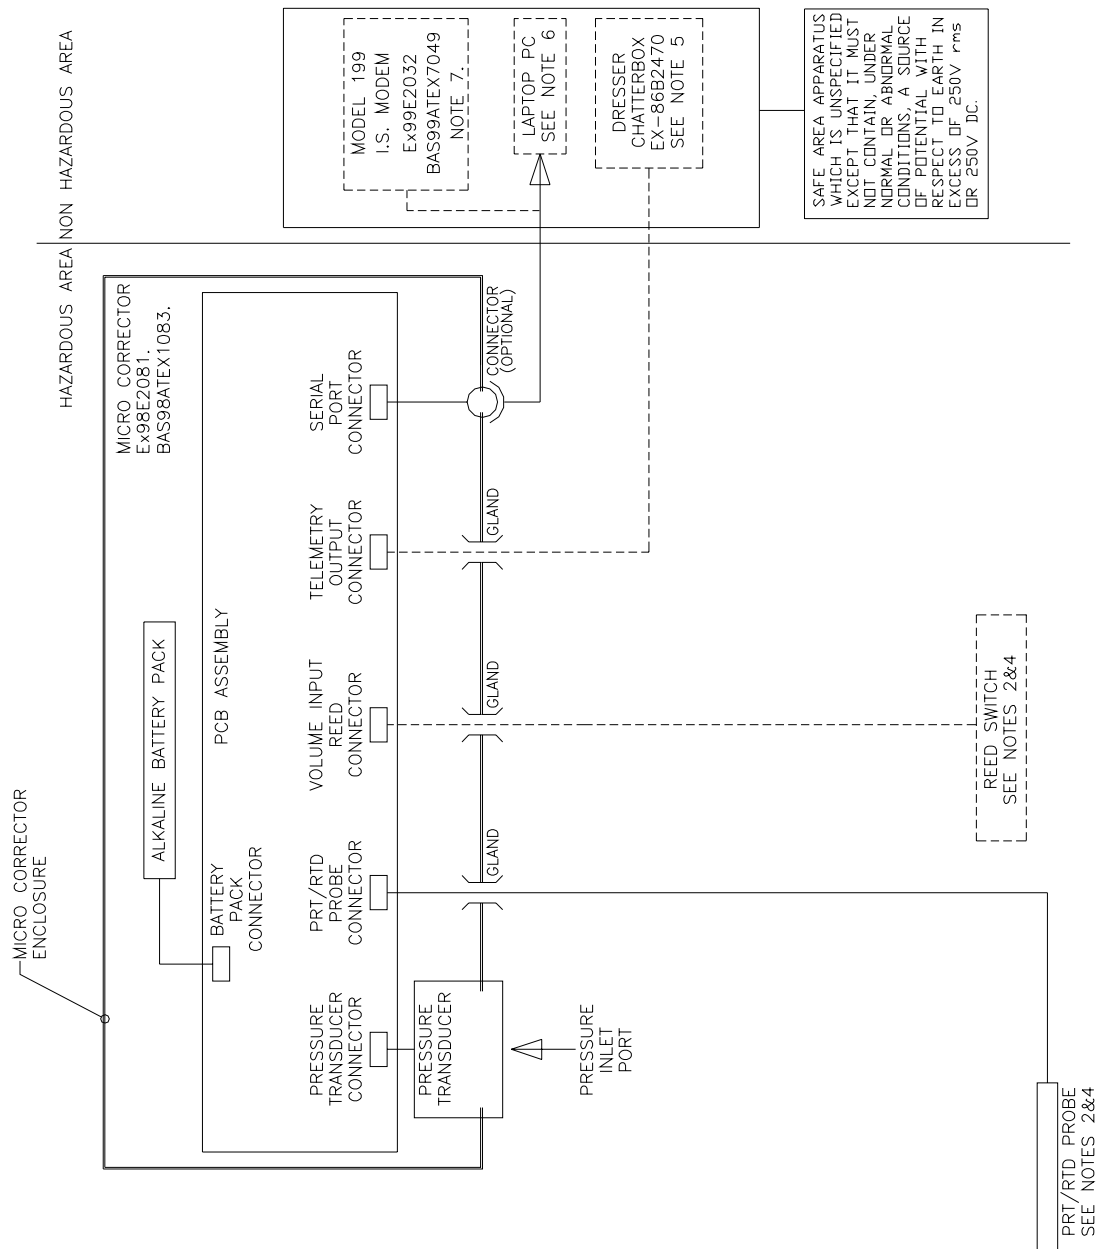
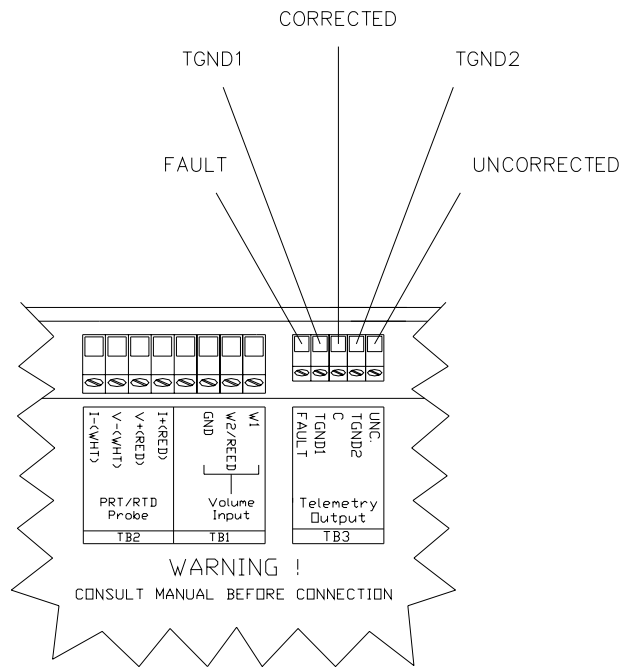

Figure 2 – Intrinsic Safety System Diagram for EECS Compliance
Figure 8 – Telemetry Output Connections (TB3)
The connection of the MC to other instruments must be carried out in accordance with the Intrinsic Safety System Diagram shown in Figure 2 (*Intrinsic Safety System Diagram for EECS Compliance*). Use Figure 2 (*Intrinsic Safety System Diagram for EECS Compliance*) to achieve compliance with EECS requirements, with consideration to the following notes:
7. The serial port may be connected to the I.S. modem (Cert No. BAS99ATEX7049) at any time in accordance with Figure 2 (*Intrinsic Safety System Diagram for EECS Compliance*), and then the cable must comply with note 5.
Where an MC installation must meet Intrinsic Safety requirements, refer to the Intrinsic Safety System Diagram (*Figure 2*) and section 4 *Safety* before commencing installation. It is essential to follow any National Codes of Practice dealing with Intrinsically Safe installations. All Intrinsically Safe circuits must be segregated from non-I.S. circuits. The transducers used in and with the MC are intrinsically safe.
Figure 8 (*Telemetry Output Connection (TB3)*) shows the connections for the telemetry output. Other Dresser approved product, such as the Chatterbox (isolation unit) may be connected to the telemetry outputs. Any equipment connected to the telemetry output must be individually assessed to ensure that the system is safe. Connection to intrinsically safe equipment not detailed in the system drawing (see Figure 2 \(Intrinsic Safety System Diagram for EECS Compliance\)) must be properly assessed by the user and the manufacturer (Dresser) will not take responsibility for the overall safety of the system.